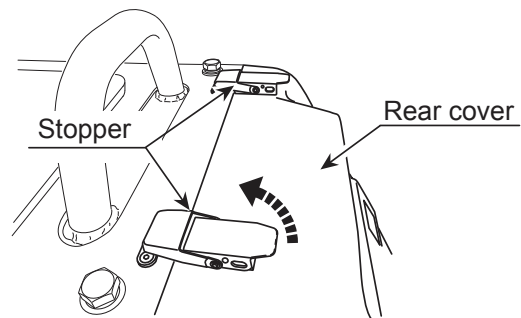

Figure 33. Opening Rear Cover
1. Unlatch the two stoppers at the top portion of the rear cover to open the rear cover (Figure 33).